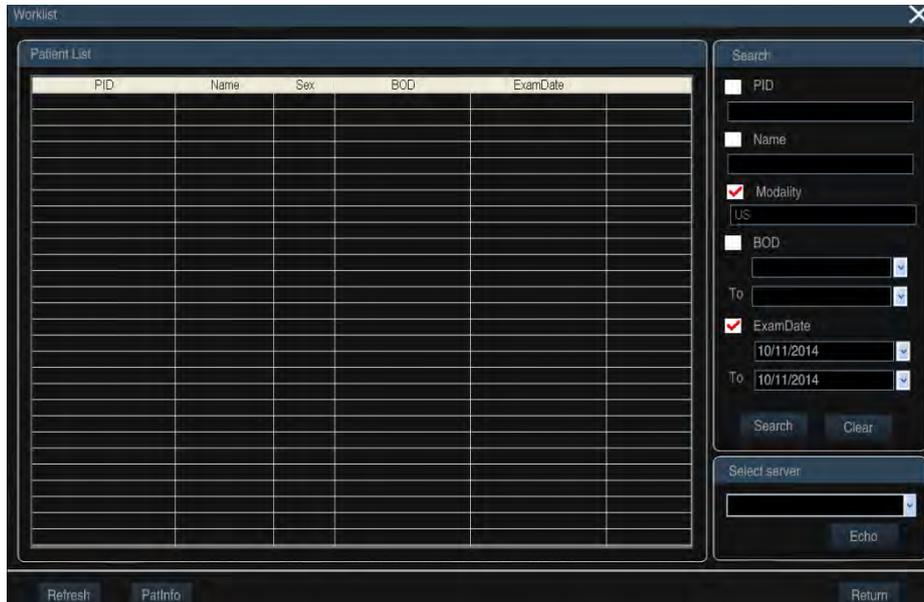

Fig. H-16 Worklist screen
- 2) Click on **Worklist**, to call up the **worklist** screen, as shown in Fig. H-16. This screen shows the patient list that is stored in the worklist server. The user may call up the patient data and save it to the local archive for a new examination. For the exact procedure, see section **7.1**.